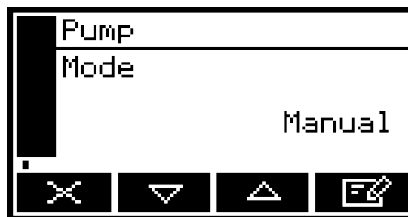

Figure 18: The Pump mode screen
- Use the and soft keys to the "Pump" menu option, then press the soft key. The Pump mode screen will then be displayed, as shown in Figure 18 (which shows manual pump operation selected).